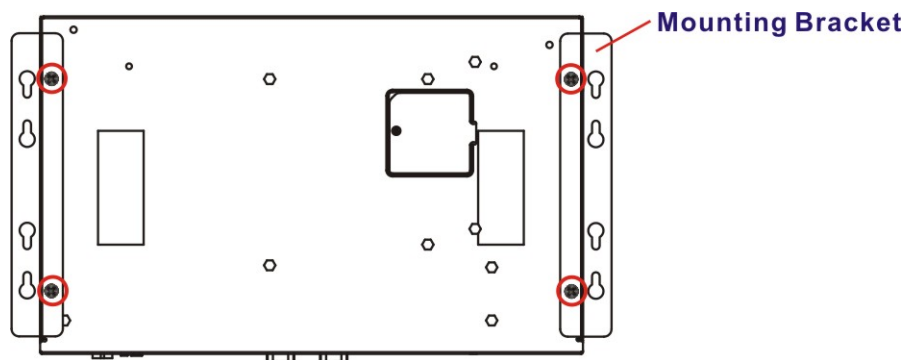

Figure 3-18: Mounting Bracket Retention Screws
Step 3: Secure the brackets to the system by inserting two retention screws (M4*6) into each bracket (**Figure 3-18**).